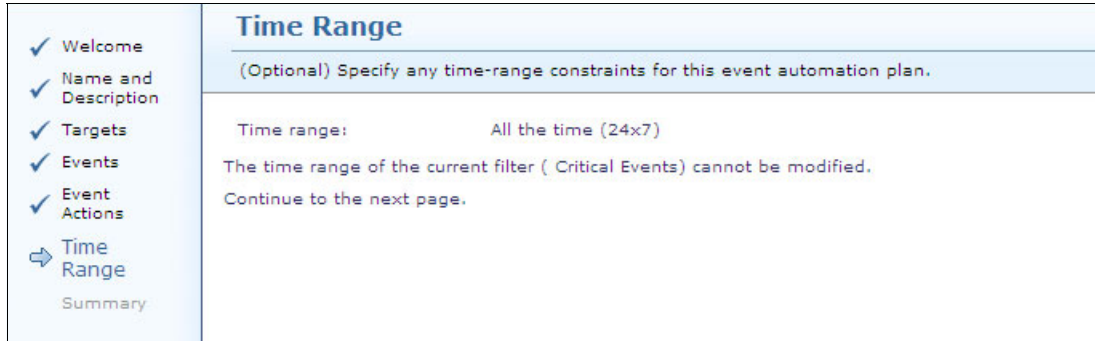

Figure 11-75 Create Event Automation Plan Wizard Time Range window
10. Click **Next** in the Time Range window, as shown in Figure 11-75.